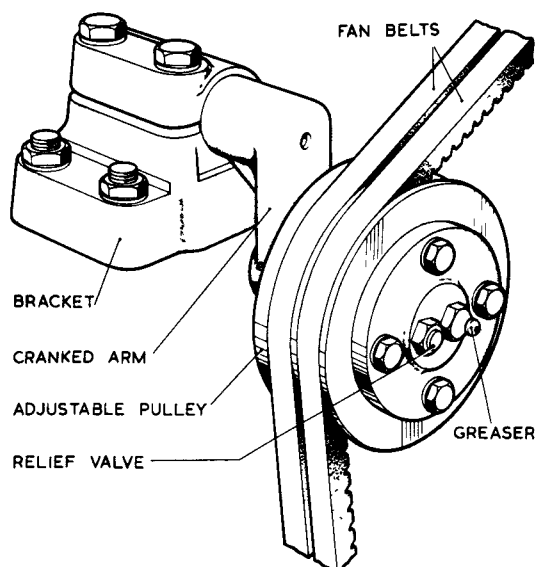

Fig. 13 Fan belt adjustment
47. The tension in the belts can be altered by swinging the adjustable pulley (fig. 13) to the required position. On the lower right side of the belt guard is an opening through which the tension can be checked; at this point it should be possible to press each belt inward about $\frac{3}{8}$ in.